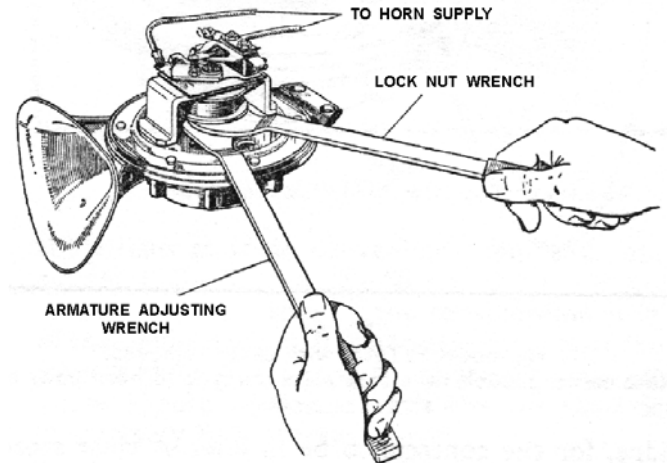

Figure 6. Adjusting the Armature
2. Reset the armature, using the tools, as in Figure 6.